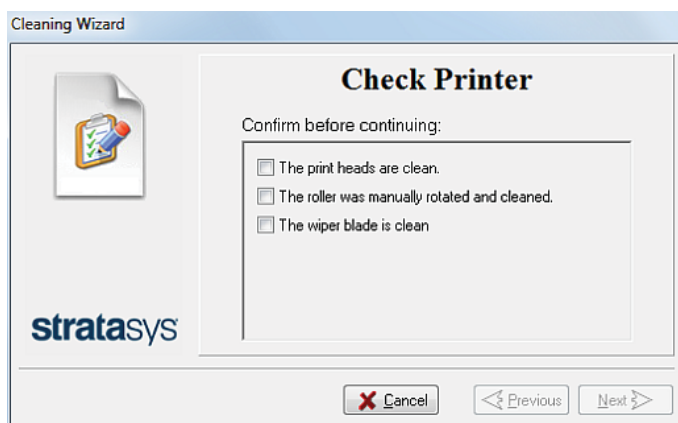

Figure 4-40 Wizard screen during cleaning tasks
14. When you have finished cleaning, select the confirmation check boxes in the wizard screen (see Figure 4-40) and click **Next**.